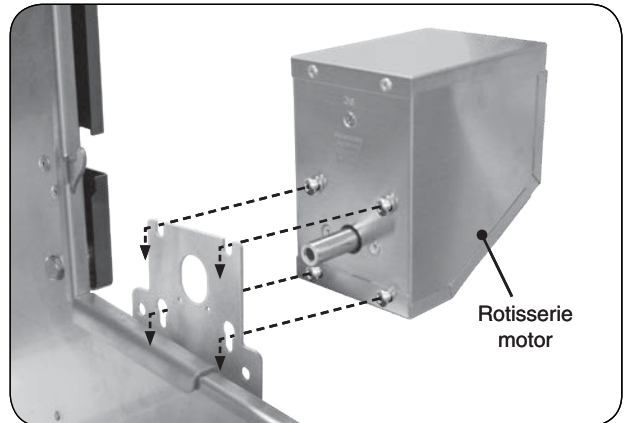

Fig. 32-2 Install rotisserie motor
2. Slide the rotisserie motor fully onto the motor bracket located on the right side of the grill (see Fig. 32-2) and connect it to a power source (do not turn on).